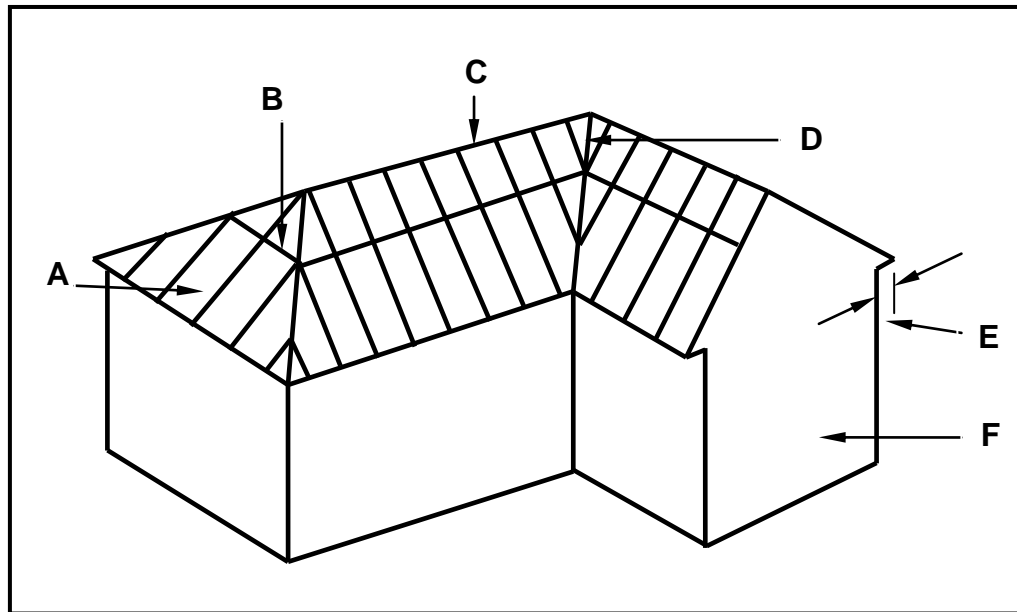

FIGURE 4.2
- 4.2 FIGURE 4.2 below shows a pictorial view of a roof with a hipped end and a gable end with a valley. The roof will be covered with corrugated iron sheeting. Study FIGURE 4.2 below and answer the questions that follow.